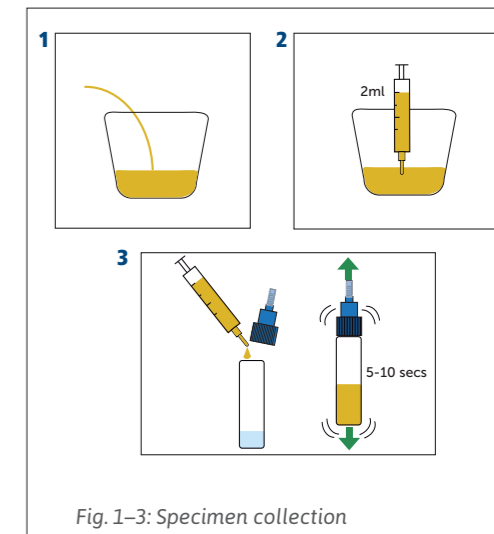

Fig. 1–3: Specimen collection
1. Use a standard, clean urine collection cup (not included) to collect the urine sample (5 mL of urine will be enough for one test) (Fig. 1).